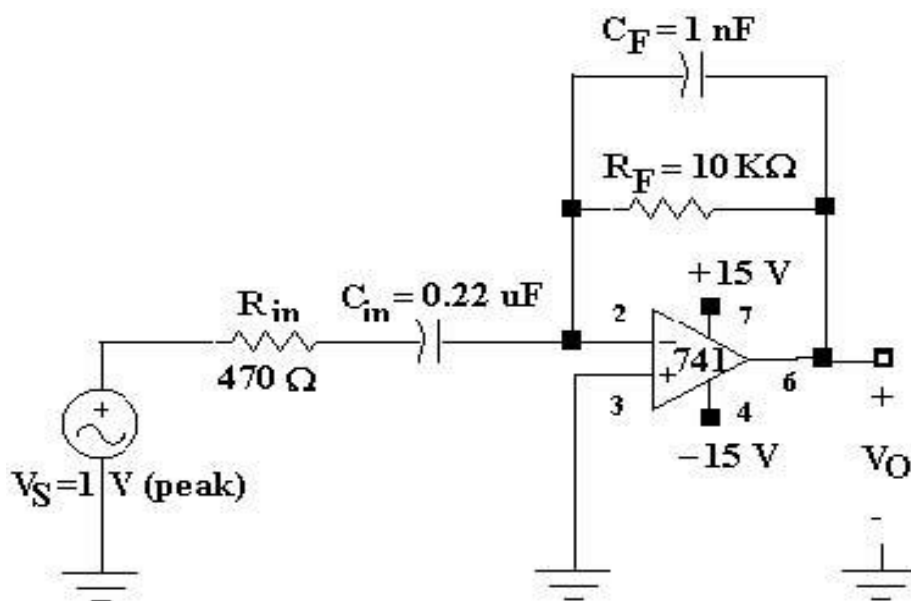

Figure3
8. To investigate the use of an operational amplifier to perform mathematical differentiation, connect the circuit in Figure 3.